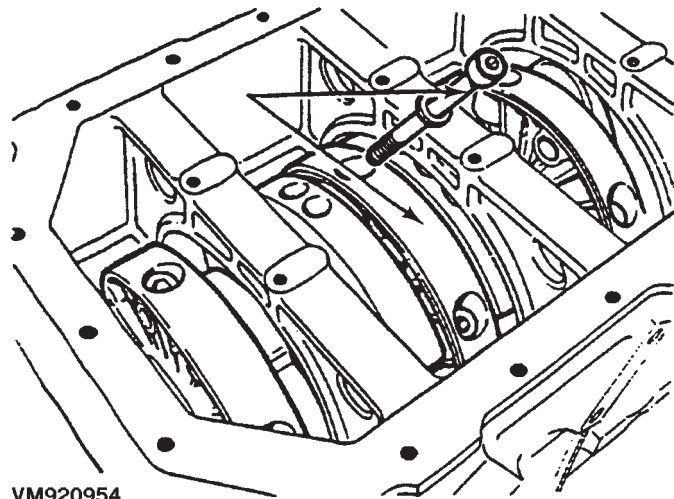

Fig. 56 Carrier Bolts
(18) Remove main bearing oil feed and carrier locators from block.
(19) Remove flywheel and adaptor plate from engine block.
(20) Remove thrust bearings from rear main bearing carrier.
(21) Slide crankshaft and bearing carriers rearward to rear of block. If you encounter difficulty in removing the complete assembly as previously described, slide the assembly rearward sufficiently to gain access to the main bearing carrier bolts. Mark the carriers for assembly and remove the bolts, two for each carrier (Fig. 56).